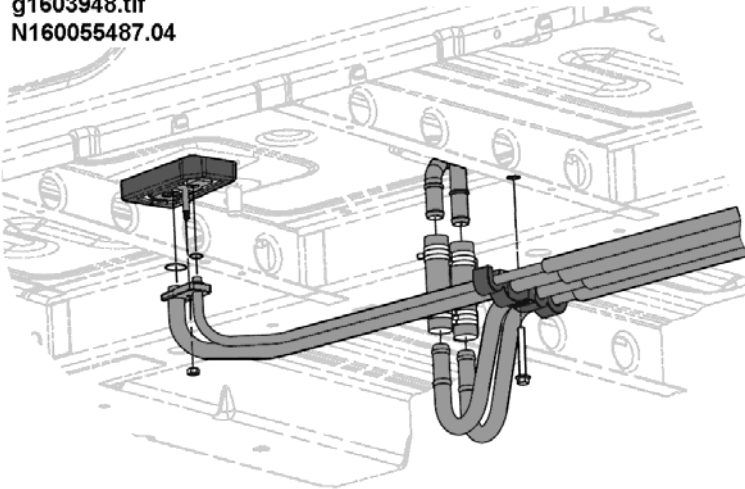
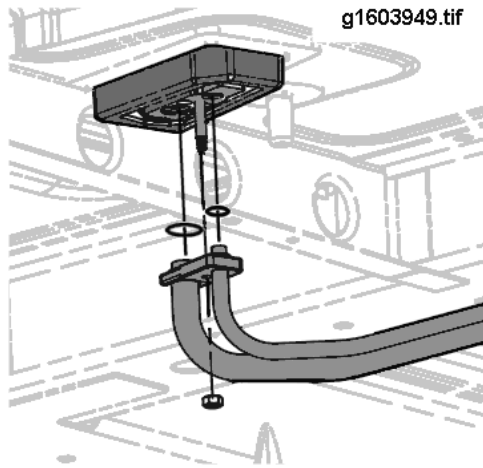

Figure 48 Rear A/C and Heater Line Connections
Figure 49 Connecting A/C Lines to Rear Thermal Expansion Valve
4. From under the vehicle, remove the rear AC/heater line hanger (Figure 48).
5. Disconnect the A/C lines from the Thermostatic Expansion Valve (TXV). Retain the lock plate and lock plate retaining nut. Plug all open tubes/ports (Figure 48).
4. Before securing the A/C lines with the rear hanger, connect them to the TXV using new O-rings, the lower lock plate, and the lock plate retaining nut. Tighten to 9,000 to 10,000 N.mm (80 to 90 lbf-in). Refer to Figure 48 and Figure 49.
2. From under the vehicle, disconnect the A/C lines from the Thermostatic Expansion Valve (TXV). Retain the lock plate and lock plate retaining nut. Plug all open A/C lines. Refer to Figure 48 and Figure 49.
3. With the A/C and heater lines positioned correctly, install and tighten the rear AC/heater line hanger (Figure 48).